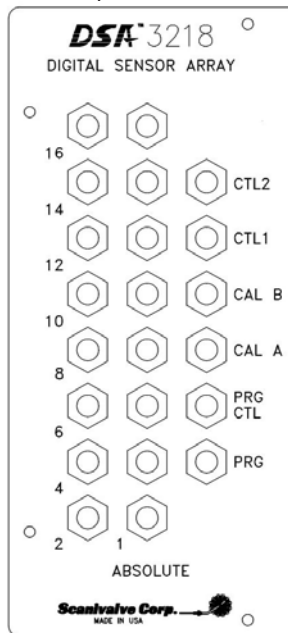

FIGURE 2.11 - DSA3218/16Px ABSOLUTE TOP PANEL
The DSA3218/16Px module can be used for absolute pressure measurement when equipped with absolute pressure transducers. A calibration valve is provided for each group of eight (8) sensors. All sixteen (16) transducers are tied a single calibration port, except in the cases of dual-range absolute modules. Figure 2.11 depicts the top panel of a DSA3218/16Px absolute pressure module.